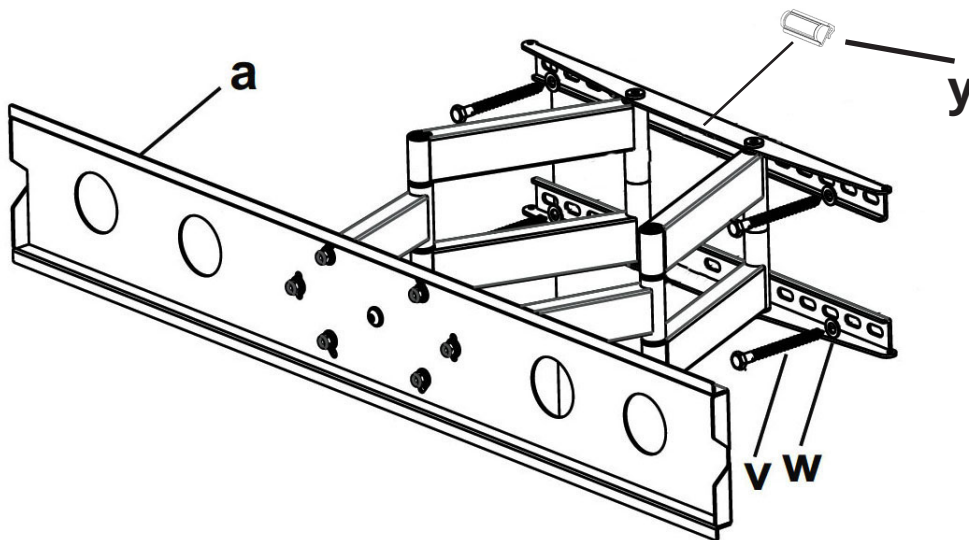

Figure 2
2. Mount the bubble level (y) onto the wall plate at the position shown. With the help of an assistant, place the wall plate onto the wall in the desired mounting location and check the bubble level to ensure it is level. See Figure 2.
3. Mark the right (upper and lower) and the left (upper and lower) positions of the small horizontal slots that are in alignment with the wood studs. See Figure 2.
7. For each location, insert a lag bolt (v) and washer (w) into the wall. See Figure 2.